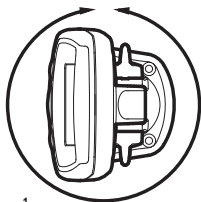

Figure 1
- Your PiranhaMAX may have one of two different types of mounting bases, either a tilt mounting base or a tilt and swivel mounting base. The mounting area should allow sufficient room for the unit to pivot freely, to swivel if capable, and for easy removal and installation (Figures 1 and 2).